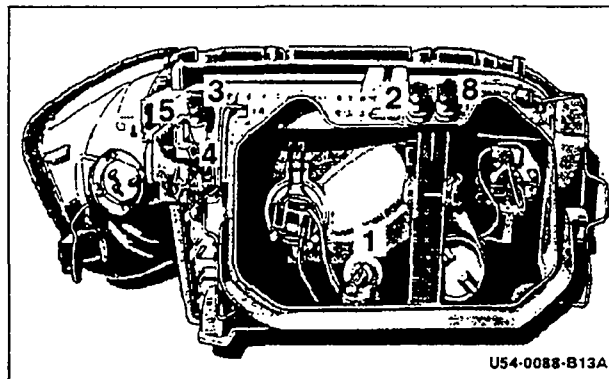

Figure 2 As of late M.Y. 1992 Model 140
Turn adjustment screw (2) until air bubble in the level (1) is centered on the "0" mark (Figure 2).
Turn adjustment screw (3) until the number "0" on the scale (4) aligns with the marker (5, Figure 2).
Turn adjustment screw (5) until the number "0" on the scale (6) aligns with the pointer in the sight glass (7, Figure 2).